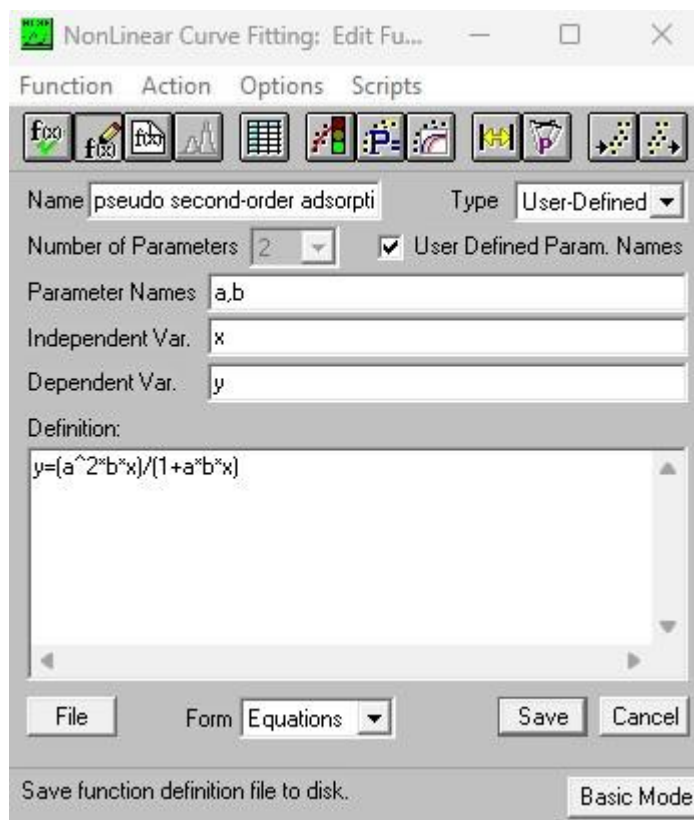

Figure 15S. Nonlinear Curve Fitting tool in Origin version 6.0
1. The initial step is to create and save the model equation using the Nonlinear Curve Fit tool in the analysis tab according to the desired nonlinear regression. Figure 15S shows the model equation for the pseudo-second order adsorption kinetics created in nonlinear curve fitting.